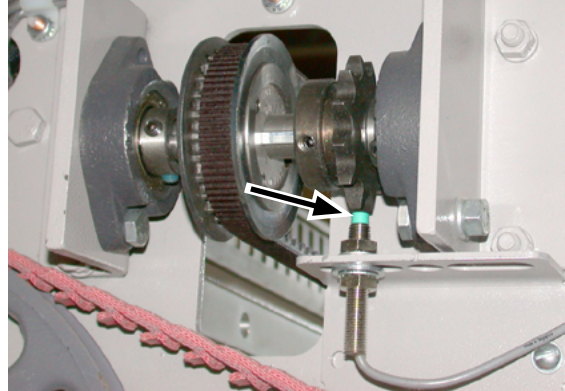

Figure 2-13: The upper spreader encoder in the left endframe.
3. The upper spreader encoder is located in the left endframe (Figure 2-13). It is mounted on a bracket very close to the teeth of the sprocket.